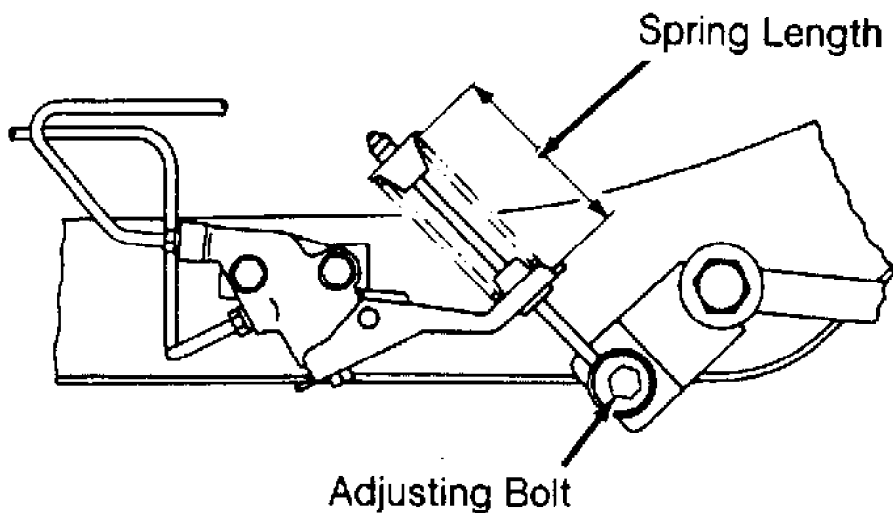

Fig. 5: Adjusting Load-Sensing Proportioning Valve (Maxima)
3) If readings are not correct, adjust sensor spring length by turning adjusting bolt. See Fig. 5. Repeat test and recheck pressure. If pressure cannot be adjusted to specification, replace LSPV.